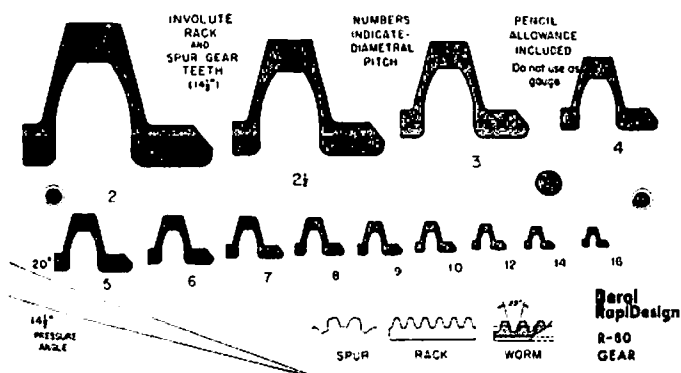

Figure 16-18 Gear template – spur/rack/worm
A quick and efficient method of illustrating teeth is by using a gear template. Figure 16-18. When using a gear template, the drafter must first calculate the diametral pitch (P). The numbers next to each tooth indicate the diametral pitch. The *lower* part of the template opening is used to draw spur gear *teeth*. The *top* portion of the opening is used to draw teeth of a *rack* or *worm*.